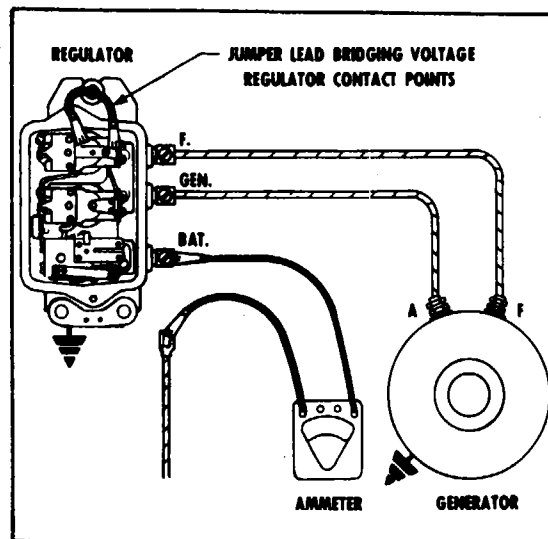

Figure 11-15. Checking Current Regulator, Jumper Lead Method
- (a) Connect ammeter into charging circuit as in Figure 11-15.